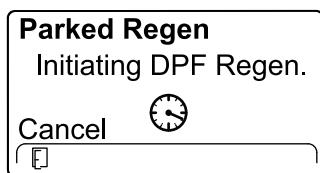

Figure 93
5. The InfoCenter displays the INITIATING DPF REGEN message (Figure 93).